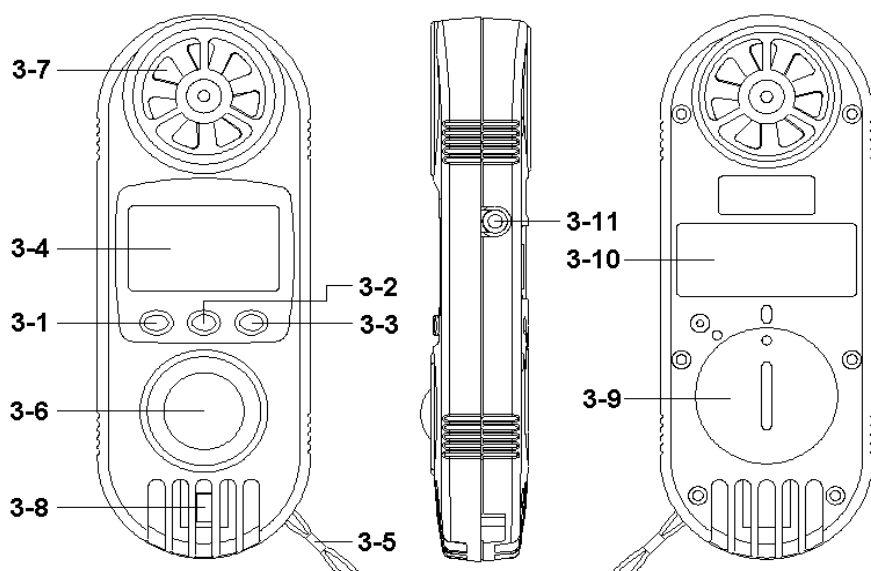

Fig. 1
Intend to get the precision reading, for the Humidity / Temp. , Dew point Temp., Wet bulb Temp., Heat index measurement, the hand or fingers do not touch (or stay away) the Humidity sensor (3-6, Fig. 1).
- 1) Insert the plug of the optional Pt 1000 ohm Temp. probe, TP-1000 into the " Pt 1000 ohm probe socket " (3-11, Fig. 1).
- 2) Open the " Battery Compartment / Cover " (3-9, Fig. 1) and remove the battery.